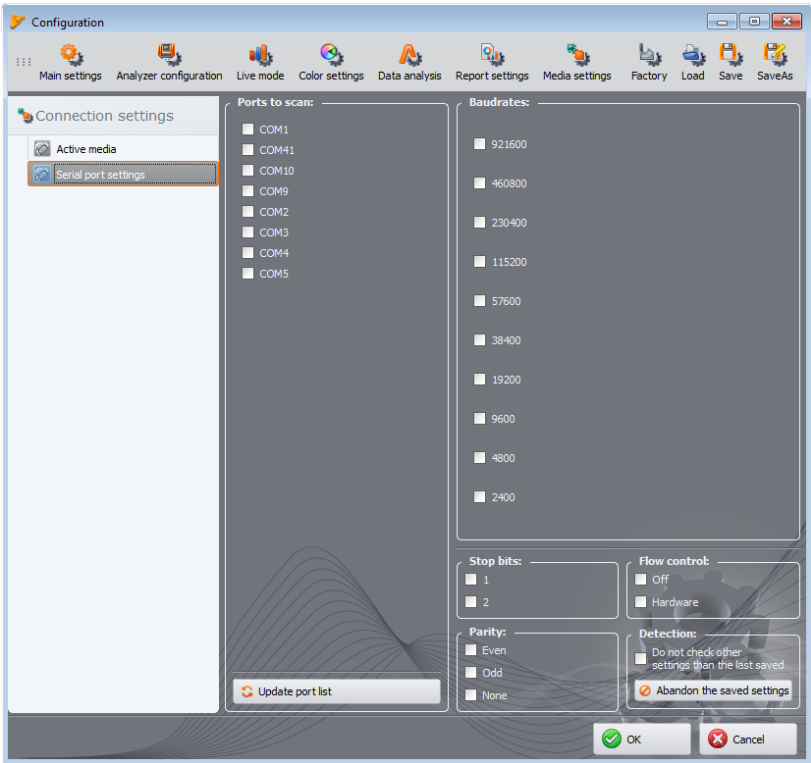

Fig. 88. Program configuration – Serial port settings.
- **PQM-701Zr SERIAL PORT SETTINGS** (Fig. 88) – allows user to select settings for PC serial port that will be applied for connecting with PQM-701Zr analyzer. The following options are available: